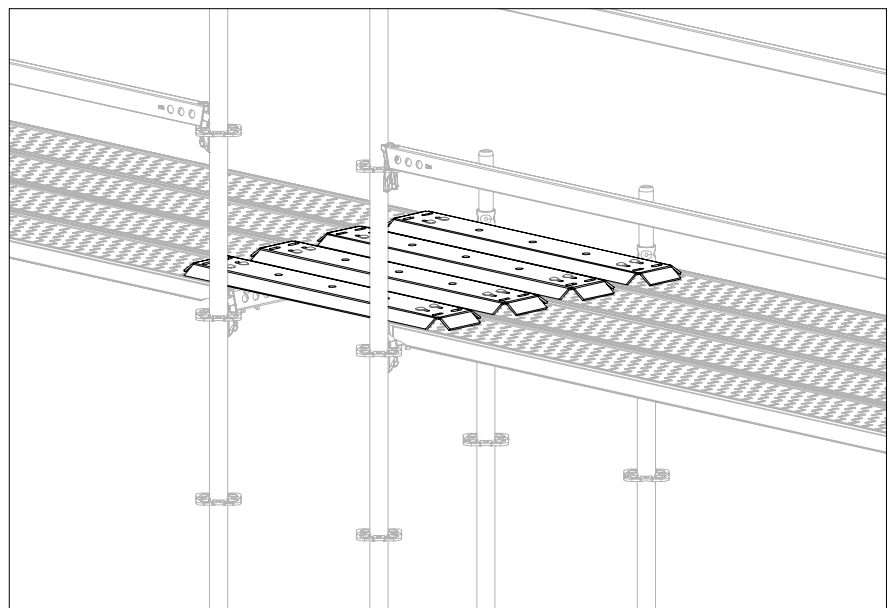

Fig. A7.04b
4. Mount additional bottom sheeting in the same way until the deck gap is closed. (Fig. A7.04b)